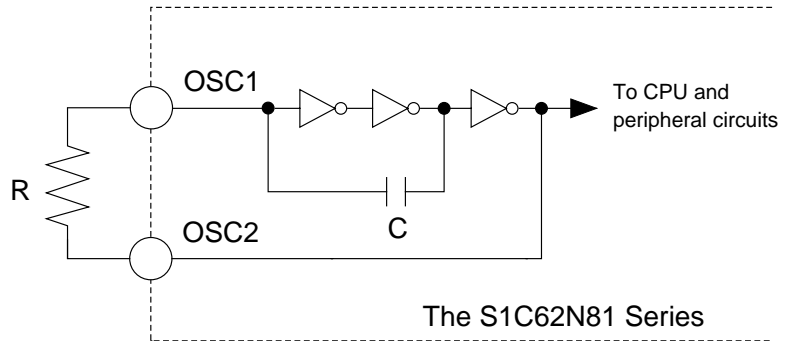

Fig. 4.2.2
For the S1C62N81 Series, CR oscillation circuit (typ. 32.768 kHz) may also be selected by a mask option. Figure 4.2.2 is the block diagram of the CR oscillation circuit.
As Figure 4.2.2 indicates, the CR oscillation circuit can be configured simply by connecting the register (R) between pins OSC1 and OSC2 since capacity (C) is built-in. See Chapter 6, "ELECTRICAL CHARACTERISTICS" for R value.